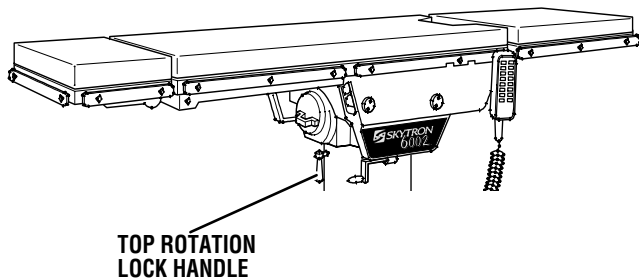

Figure 3-15. 180 Degree Top Rotation
a. The table top can be horizontally rotated 180° without having to rotate the entire table. To rotate the top, turn the TOP ROTATION LOCK HANDLE counterclockwise (figure 3-15), grasp the table by the head end and rotate the top 180° counterclockwise. Lock the top in position by tightening the TOP ROTATION LOCK HANDLE clockwise.